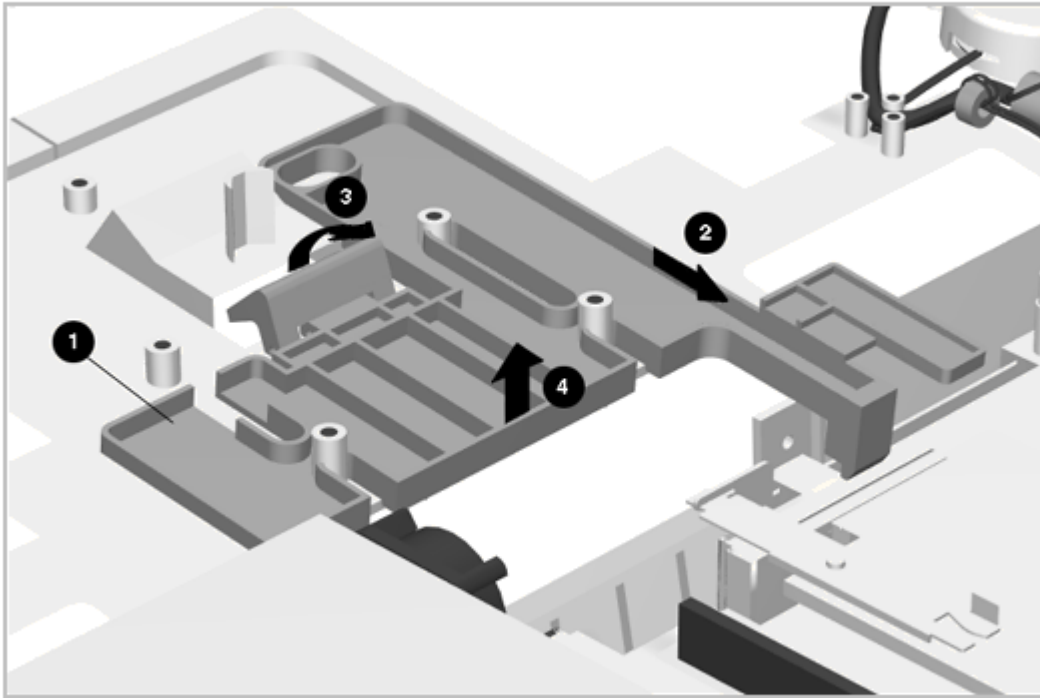

Figure 6-34. Removing the Puller Plate Assembly
7. To remove the puller plate assembly [1], see Figure 6-34 and complete the following steps:
To install the puller plate assembly, press the docking aid [3] through the opening and slide the puller plate [1] into place (Figure 6-34).